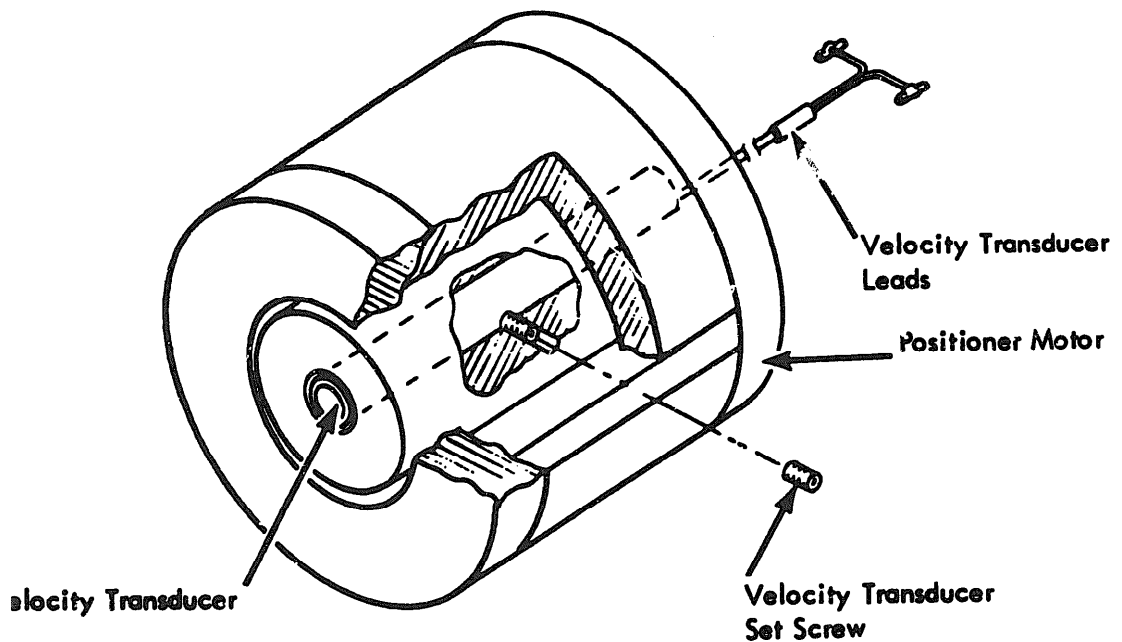

Figure 6-14. Velocity Transducer Alignment
- Loosen #6-32 set screw two turns. This set screw is threaded into the motor core and is accessible through left air slot (Figure 6-14).